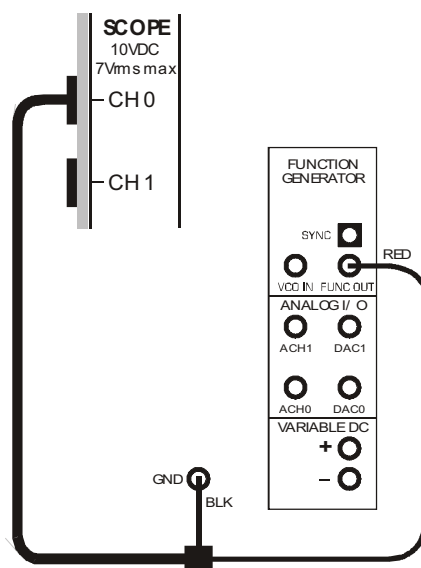

Figure 8
18. Connect the set-up shown in Figure 8 below.